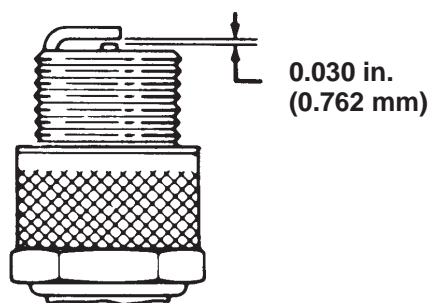

Figure 38
4. Set the air gap between the center and side of the electrodes at 0.030 in. (0.762 mm) (Fig. 38). Install the correctly gapped spark plug and tighten the plug to 14 ft.-lb. (20 N·m).